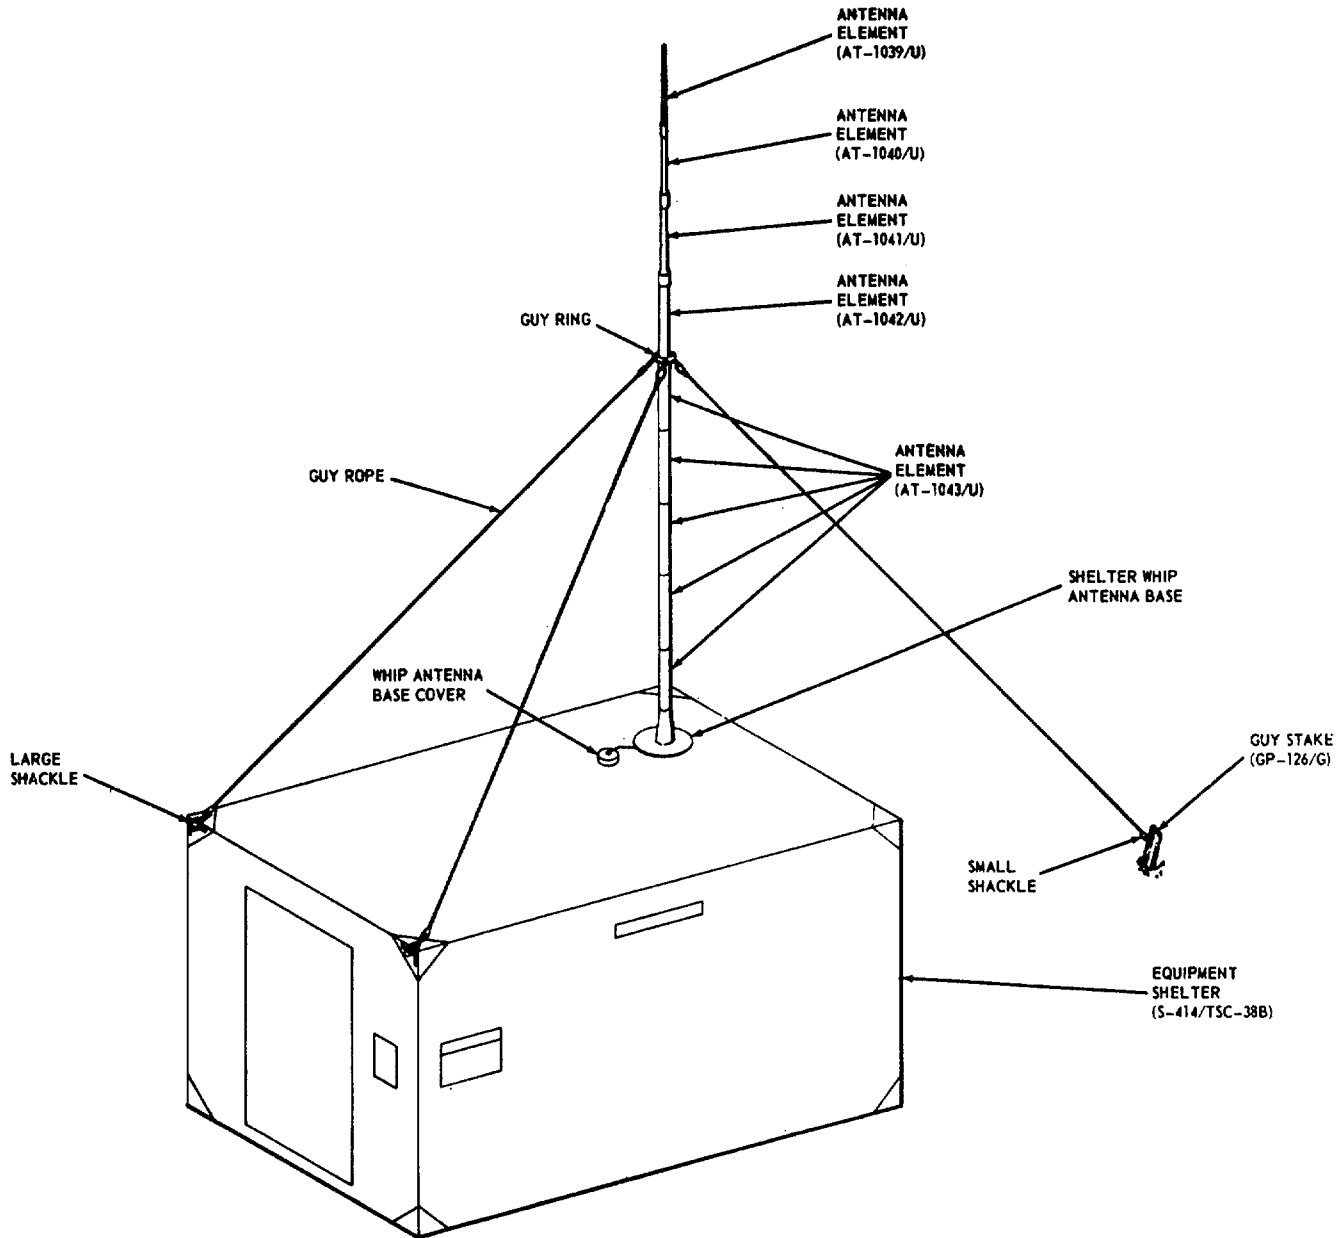

Figure 2-10. Shelter whip antenna installation.
- b. Screw four of the AT-1043/U antenna elements together in the sequence shown in figure 2-10.
- e. Continue to screw on the remaining four antenna elements (AT-1039/U to AT-1042/U), as shown in figure 2-10.
- g. Unscrew the whip base cover (fig. 2-10) from the equipment shelter roof.